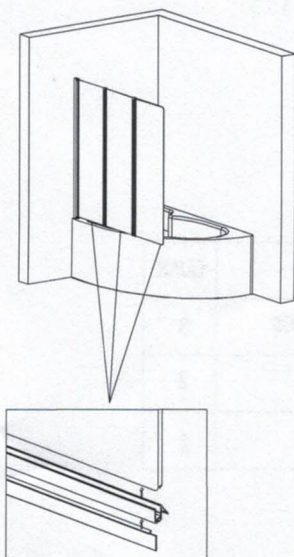

Fig.4
- (Fig.4) Install the rubber sead under the bottom.